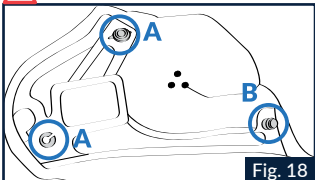

Fig. 18
2.1 Unhook the three eyelets "A" of the rear frame of the left cheek pad slot next to the two snap buttons (front and rear) on the back (Fig.18).
5.2 Unhook the two eyelets "A" of the rear frame of the left cheek pad slot next to the two snap buttons (front and rear) on the back (Fig.18).